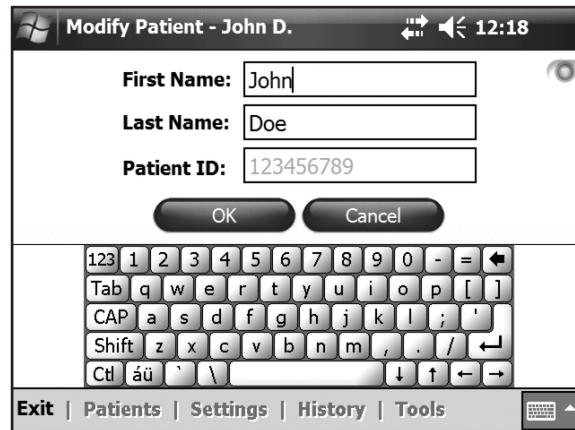

Figure 7-36: Modify Patient window.
2. The Modify Patient window will open. See Figure 7-36.